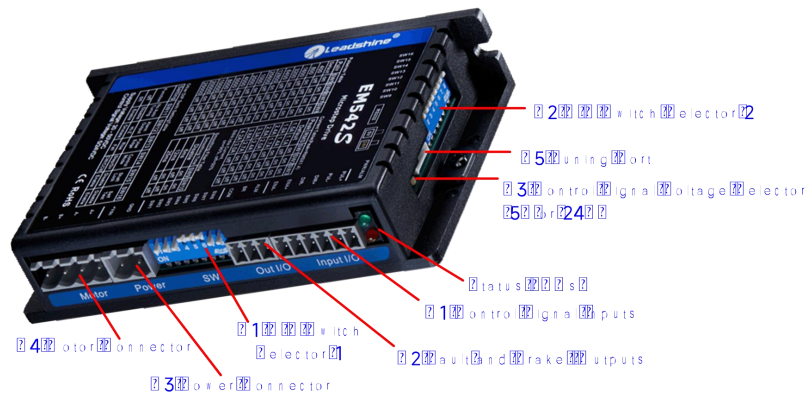

Figure 2 Connectors, DIP switches, and LED locations
PUL+ (CW+)	Pulse and Direction Connection: (1) Optically isolated, high level 4.5-5V or 24V, low voltage 0-0.5V (2) Maximum 200 KHz input frequency, 500KHz customized model is available (3) The width of PUL signal is at least 2.5μs, duty cycle is recommended 50% (4) Single pulse (step & direction) or double pulse (CW/CCW) is set by DIP Switch SW14 (5) DIR signal requires advance PUL signal minimum 5 μs in single pulse mode (6) The activated edge of PUL and DIR is set by DIP Switch SW13 (7) The factory setting of control signal voltage is 24V, must need to set S3 (figure 2) if it is 5V
The DM542 can accept differential or single-ended control signals (pulse, direction, and enable) in open-collector or PNP connection through the P1 connector (figure 2). It is recommend to add an EMI line filter between the power supply and the drive to increase noise immunity for the drive in interference environments.
The first 8-bit is located on the side (DIP switch selector 1 in Figure 2) and used to configure settings of micro step resolution, output current, and motor standstill current as shown below, the factory setting of SW1-SW8 is ON, ON, ON, OFF, OFF, OFF, ON, ON.
The second 8-bit DIP switch is located on the top (DIP switch selector 2 in figure 2), and used to configure settings of control command filtering time, motor auto-configuration, fault output impedance, pulse active edge, control mode, lock shaft, and self-test as shown below, the factory setting of SW1-SW8 is OFF, OFF, OFF, OFF, OFF, OFF, OFF, OFF.
The Third 1-bit selector is located on the top (DIP switch selector 3 in figure 2), used to configure the voltage of control signals. For the safety of optically coupled, the factory setting is 24V, which no need to connect 2K resistors like the old drives, making it easier to use. When the voltage of the control signal is 5V, the S3 must be set to 5V, otherwise, the motor won't work.